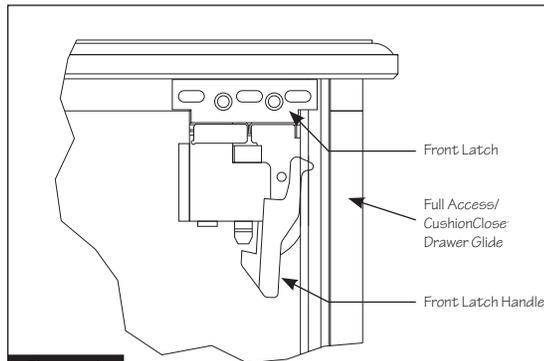

Figure 1
**1** Determine which cabinet this unit will be installed in and remove existing drawer body from cabinet by disengaging the front latch handles on the bottom of the drawer (see Figure 1) from the drawer glides. Unscrew the drawer front from the existing drawer body, noting the bottom edge.
**5** Verify that the front latches secure the glide (see Figure 1). Pull the drawer out fully and either visually confirm this or feel for full engagement of the glide into the latches. If the latches did not fully engage the glide, it is possible for the drawer to come out during use and possibly cause injury.